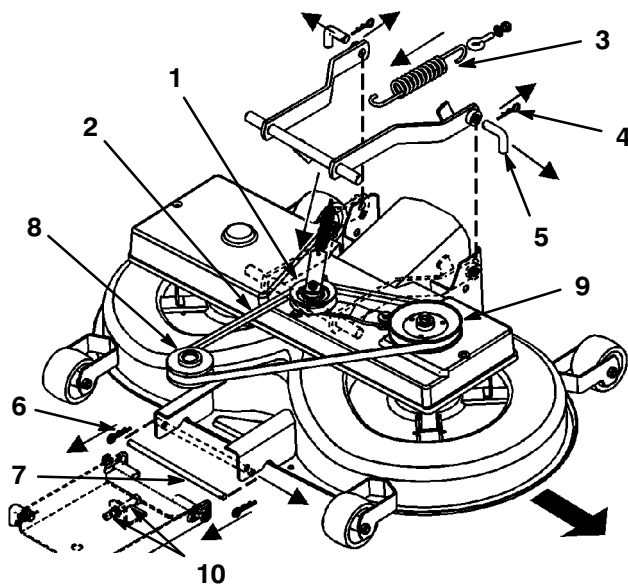

Figure 41
3. Pull the idler arm assembly in and remove the V-belt from the pulley (Fig. 41).
4. Disconnect the spring from the engagement lever (Fig. 41).
7. Remove the hairpin clip from the front pin and remove the pin (Fig. 41).
8. Remove the V-belt from the engine pulley (Fig. 41).
6. Remove the hair pin clips from the two rear pins and remove the pins (Fig. 41). A pliers may be needed to pull the second pin out.
2. Remove the V-belt pulley and idler arm assembly (Fig. 41).
2. Move the lower pin of the front adjustment suspension into the bottom position of the slotted holes by adjusting the two M12 nuts on the front suspension (Fig. 41).